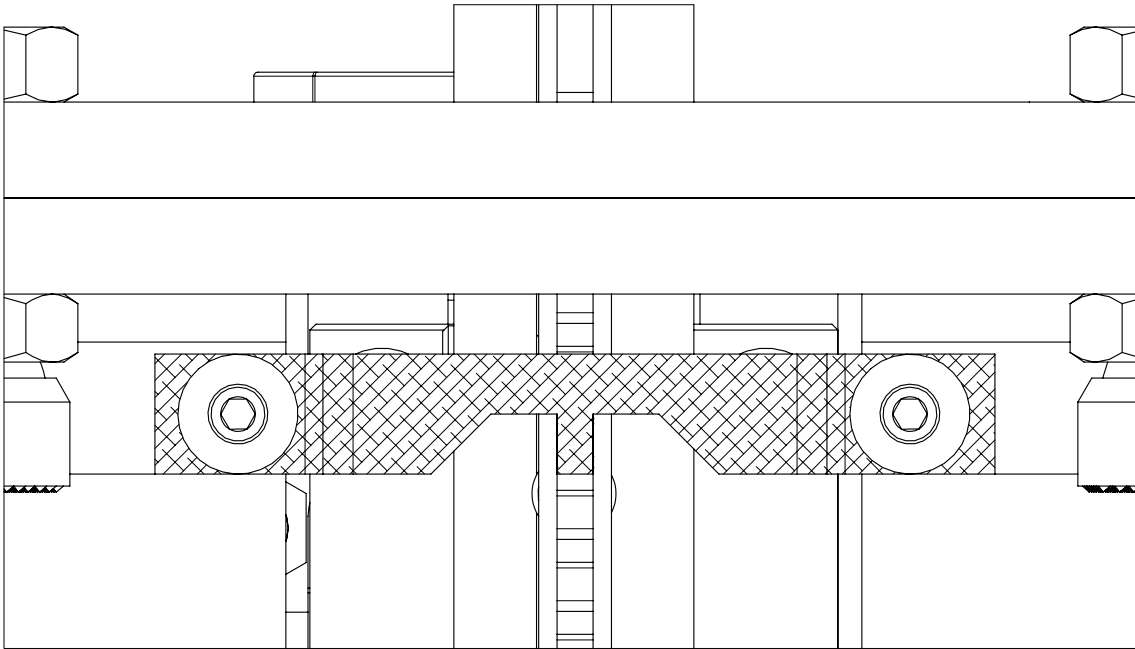

Figure 1: Properly calibrated joint alignment bracket
1. Confirm that the tab on the joint alignment bracket is aligned with the cutting tool (**Figure 1**).